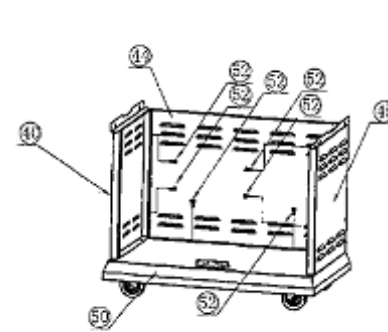

FIG3
3. Secure Back Plate (44) on the Platform (50) with 1/4-20" 1/2Bolt (52) and link with Left Plate (40) and Right Plate (45). As shown in FIG3.